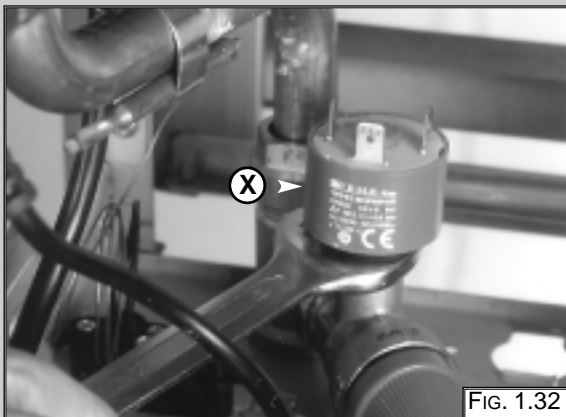

FIG. 1.32
2. Unscrew the pump pressure switch by using a spanner on the nut "X"(Fig. 1.32);